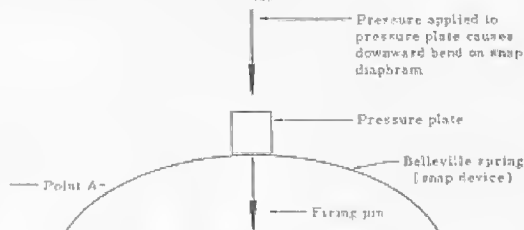

Figure 59. Belleville spring (snap diaphragm).
4. **Uncocked firing pins** - This is cocked and fired all in one operation and can be done by application of pressure, tilting, or pull. A good example is the fiber spring called the "Belleville spring" (Figure 59). This device, from a bottom view, resembles a saucer and is constructed of a fiber or plastic material which will give it a snapping action similar to the metallic springs utilized in "crackers" that children snap to make a noise.